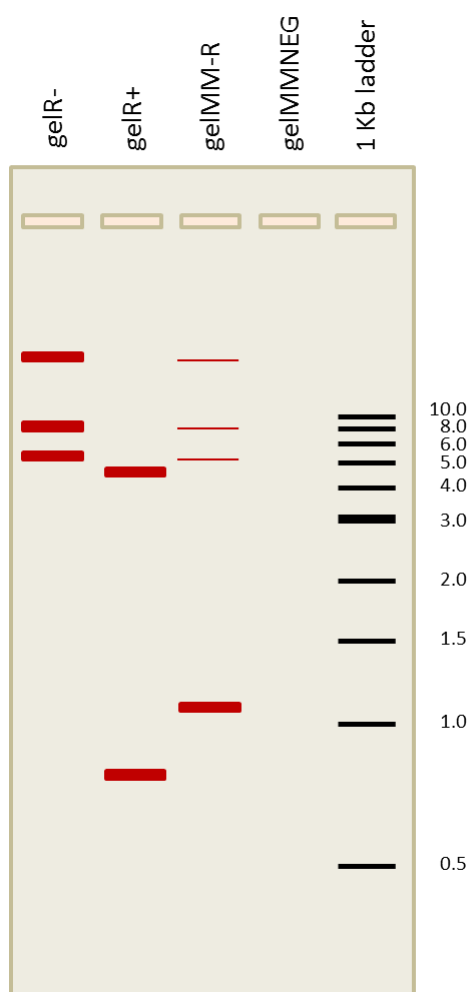

Figure 5a.1 The DNA ladder diagram completed with the expected sizes of DNA bands.
The processes for diluting TAE buffer, preparing agarose gels and diluting GelRed solution are covered in the overview of preparation section on page I10. If you pour an 15-well, 0.8% agarose gel, then two or three groups will each be able to load one set of 4 samples and a 1 kb DNA ladder. If you have completed one of the labs 2a and 4a, you may wish to provide alternative suggestions for the sample loading order given in figure 5a.3 of the student guide. If students are only loading 2 samples from lab 2a or lab 4a, then 6 groups could use one gel with 3 lanes of 1 kb DNA ladder.
8. The DNA ladder serves as a standard because it contains a mixture of DNA molecules of known sizes. By running your samples and the DNA ladder side by side in your gel, you can estimate the actual size in base pairs of unknown DNA molecules. The DNA Ladder Diagram below shows 10 DNA bands of known sizes. Their sizes are given in kilobase (kb) pairs. 1 kb is 1,000 base pairs (bp). Predict the positions of DNA bands produced by the possible products found in the gelR-, gelR+, gelMM-R and gelMMNEG tubes by drawing them on the DNA Ladder Diagram (figure 5a.5).
The DNA ladder diagram is reproduced in Figure 5a.1 with the expected sizes of the DNA bands.